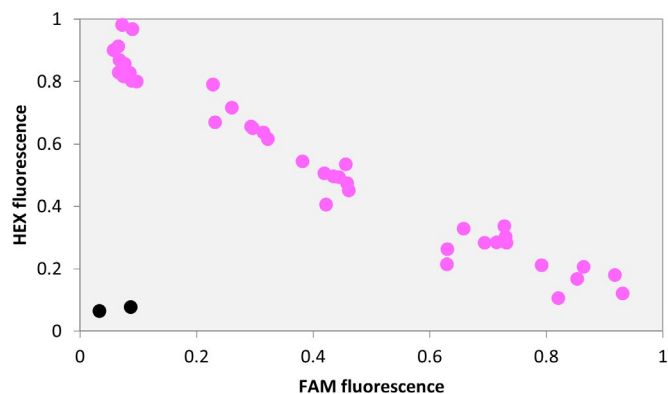

Figure 5. There appear to be more than three genotyping clusters visible on the plot.
**Plot characteristics:** more than three genotyping clusters are visible on the cluster plot (Figure 5).